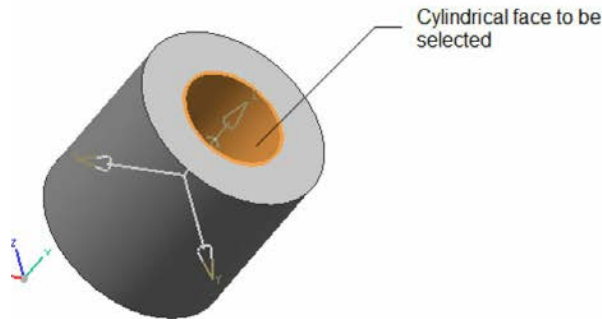
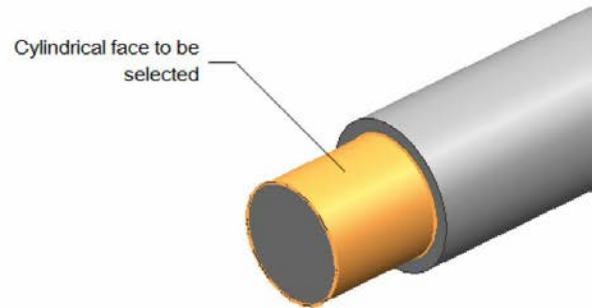

Figure 8-72 Cylindrical face of the Handle Screw
Figure 8-73 Cylindrical face of the Handle
8. Select the cylindrical face of the Handle Screw, refer to Figure 8-72, and then select the cylindrical face of the Handle, refer to Figure 8-73.